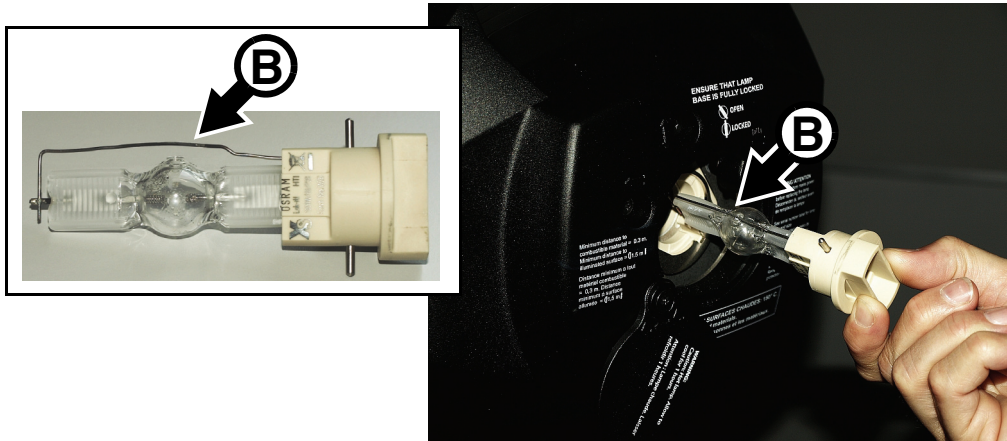

Figure 10: Lamp removal / refitting
5. See Figure 10. Hold the replacement lamp so that the external wire **B** is facing up towards the top of the head (towards the vertical and horizontal alignment screws **C** and **D**) and line up the contacts on the lamp base with the slots in the lampholder. Slide the lamp into the fixture until the contacts are fully inserted in the slots, then twist the lamp base a full 45° clockwise until it locks into position with a noticeable click. The lamp is a stiff fit and trying to strike a lamp that is not correctly installed can cause damage that is not covered by the product warranty, so ensure that the lamp is correctly locked into position.